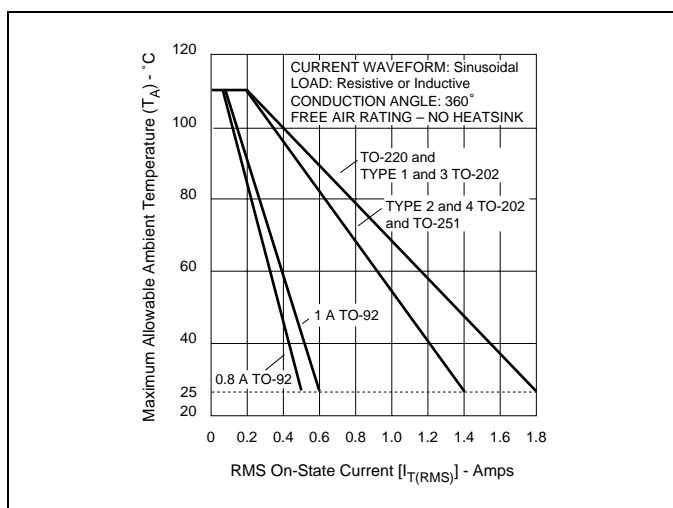
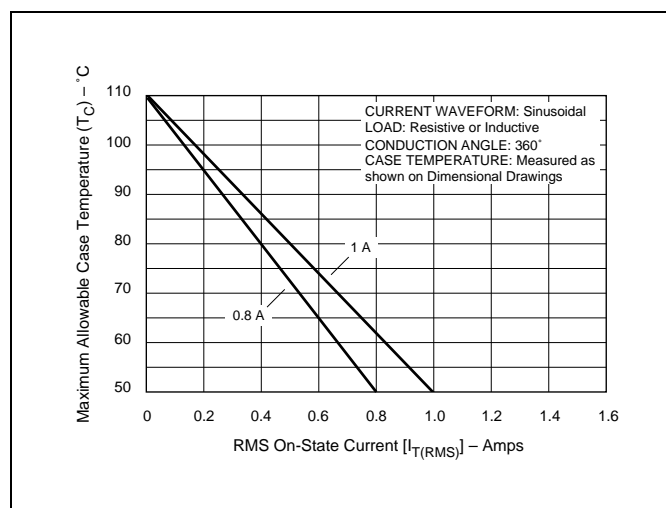
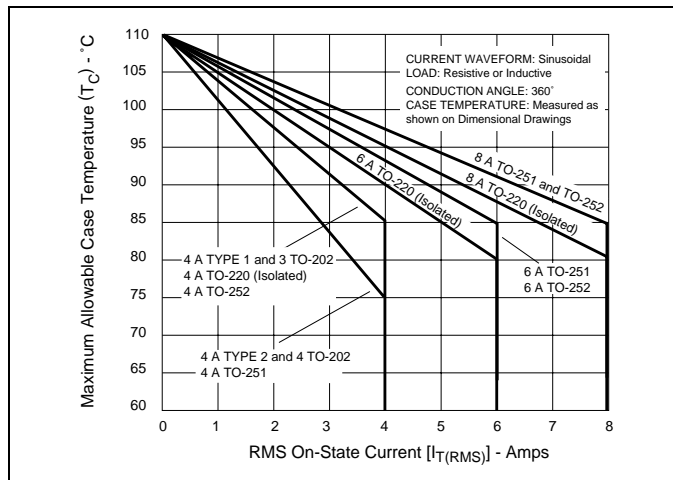

Figure E1.1 Maximum Allowable Ambient Temperature versus On-state Current
Figure E1.2 Maximum Allowable Case Temperature versus On-state Current (0.8 A and 1 A)
Figure E1.3 Maximum Allowable Case Temperature versus On-state Current (4 A, 6 A, and 8 A)
- See Figure E1.2 and Figure E1.3 for maximum allowable case temperature at maximum rated current.
- See Figure E1.1, Figure E1.2, and Figure E1.3 for  $T_A$  or  $T_C$  versus  $I_{T(RMS)}$ .